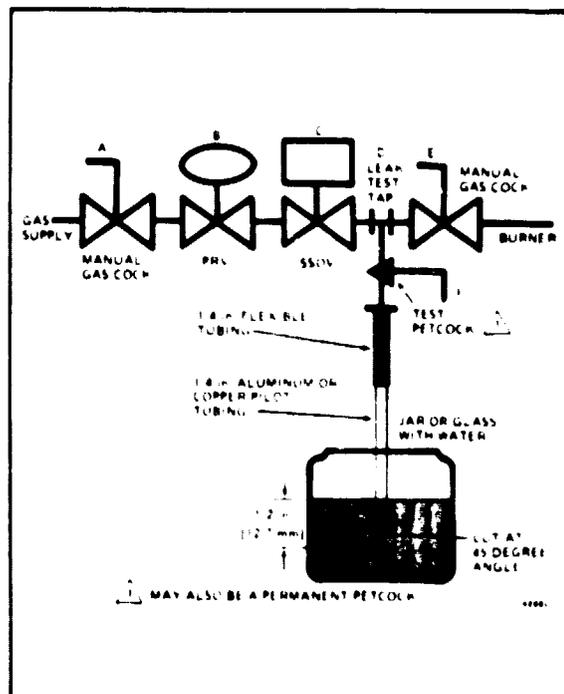

FIG. 7—VALVE LEAK TEST.
VALVE LEAK TEST (FIG. 7)
1. De-energize the control system to ensure that there is no power to the safety shutoff valve (C), shown in Fig. 7.
2. Close the upstream manual gas cock (A).
3. Make sure the manual test petcock (F) is closed in the leak test tap assembly (D).
4. Remove the leak test tap plug and connect the test apparatus to the Leak Test Tap (D).
5. Close the downstream manual gas cock (E).
6. Open the upstream manual gas cock (A).
7. Run the safety shutoff valve (C) to its fully open position (through the safety system); then immediately de-energize the system to close the valve.
9. Slowly open the test petcock (F).